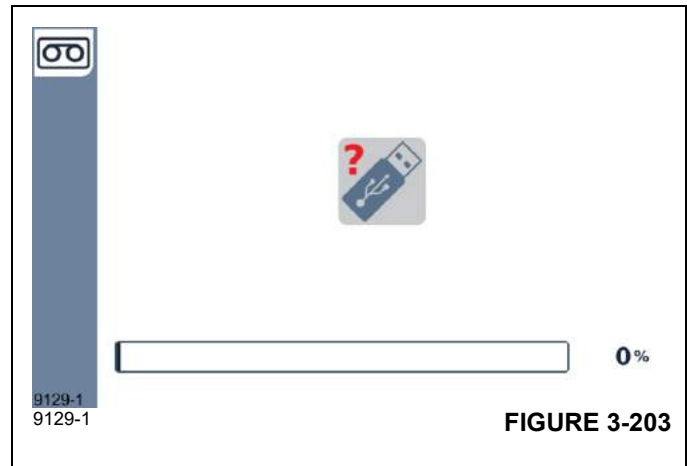

FIGURE 3-203
2. Insert USB drive into the USB port of RDM (Figure 3-203).